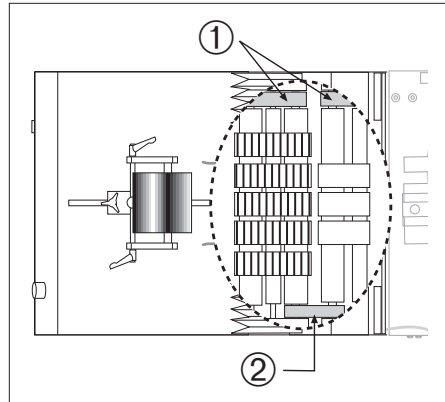

Figure 25. Inspecting Timing Belt and Drive Belt
Referring to Figure 25, ① and ②, check for visual signs of: